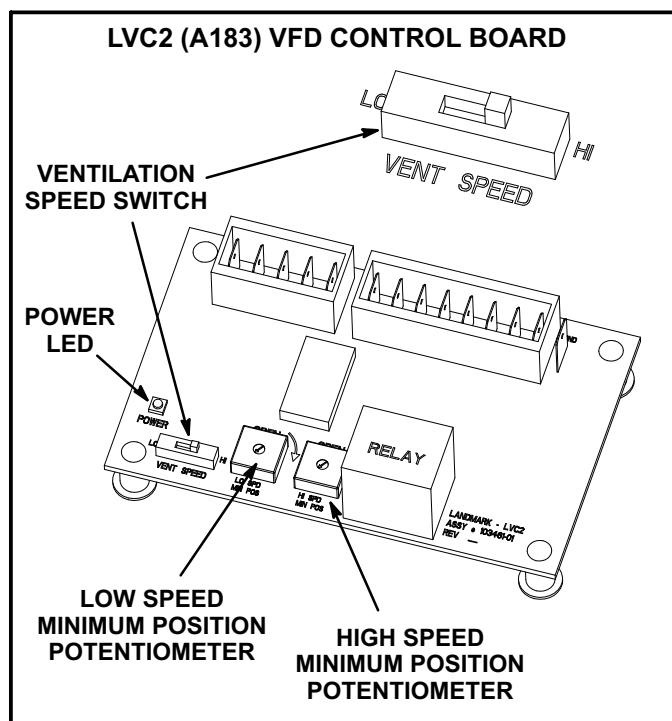

FIGURE 29
To save energy during ventilation, the blower speed can be set to low. This is accomplished by changing the ventilation speed switch on the VFD control board to "LO". See figure 29.
To maintain required minimum ventilation air volumes when the unit is in the occupied mode, two minimum damper positions must be set. A high and a low speed potentiometer are provided on the VFD control board to adjust minimum damper position. See figure 29.
- 5- Check the power LED on the board. See figure 29.